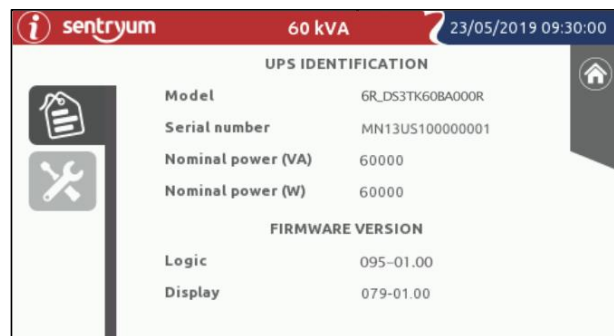

Fig. 124
- Check on the UPS info page  of the display panel the changes made on chap. 12.2.2. The **Model** on the UPS Identification must contain the new part number set previously (see Fig. 124). The nominal power of the UPS must be compatible with the Model.
- Check that the correct **Serial number** is shown on the “Settings” of S3Config (Fig. 123) and on the UPS Info page of the display (Fig. 124):